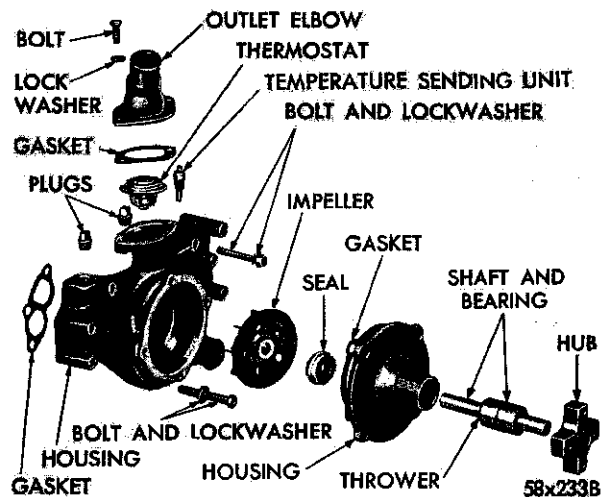

Fig. 3—Water Pump Assembly
2. WATER PUMP (Removal from the Vehicle) (Fig. 3)
Disassembly (Fig. 3)
Assembly (Fig. 3)